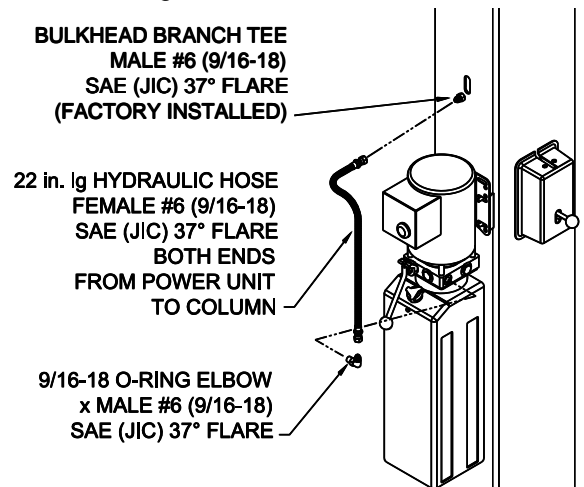

Fig 10 – Hydraulic Hose from Power Unit to Power Column.
- 25) Attach hydraulic elbow fitting (*in hardware box*) threading the 9/16-18 O-ring end to power unit. See **Fig 10.** CAUTION not to damage rubber O-ring.
Thread opposite end of hose into male #6 fitting (*factory installed*) attached to power column as shown in **Fig 10**.